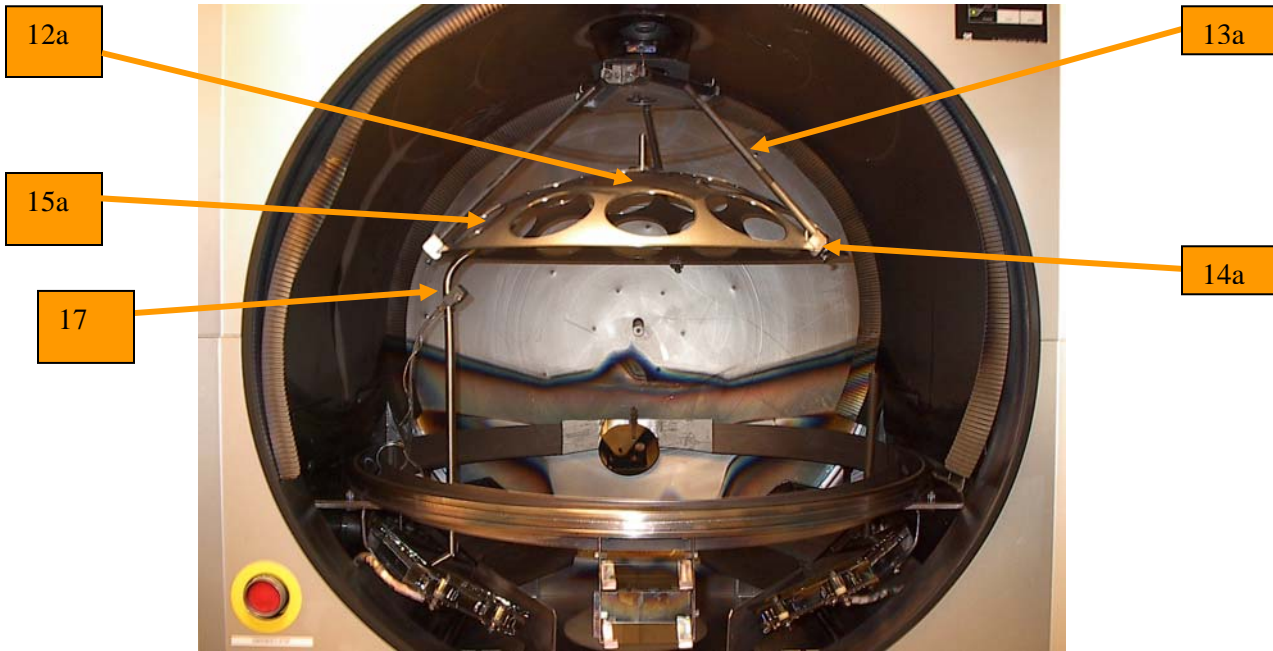
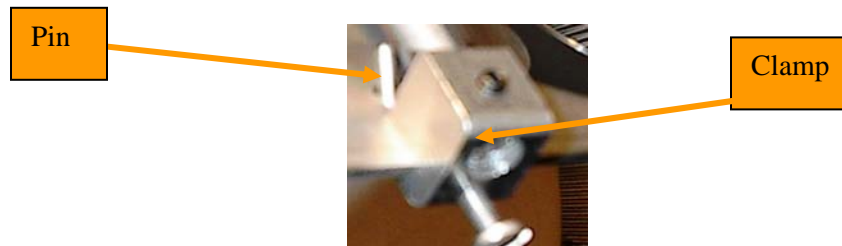

Figure 3
Figure 4
**Replace** the arm with a Lift-off dome arm (fig. 3 - 13a) and be sure the lift-off dome clamp (fig.3 - 14a) is facing in towards the chamber.
**Fit the lift-off dome** (fig3. - 12a) into the chamber as in figure 3 while taking care not to bump into the pocket mirror, or the lift-off crystal monitor. Position the arm clamps (fig3. - 14a) by aligning the pins as pictured below in figure 4.
**Remove cover on Crystal #2 (fig3 – 17).**